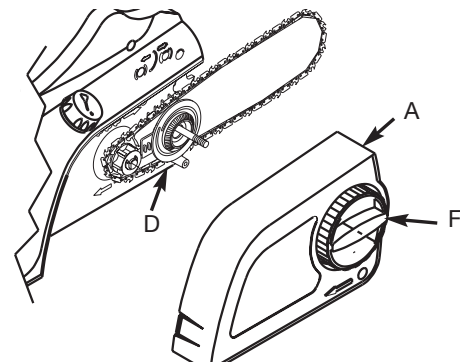

Fig. 21
2. To fit the chain on the bar, turn the tension plate (D) counter-clockwise to the end. Install the chain and bar on the power unit, turn the tension plate (D) clockwise and then put the side cover (A) on (Fig. 21).
3. Turn the knob clockwise, adjust the chain tension ring (F) and then tighten the knob.